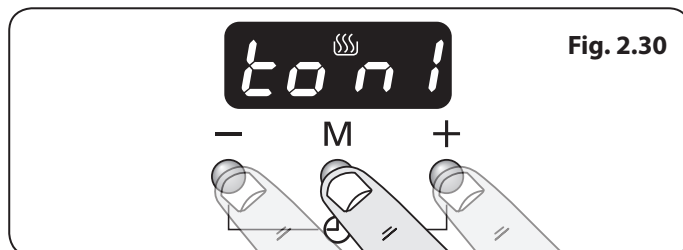

Fig. 2.30
1. Press the the [+] and [-] buttons simultaneously, then the mode [M] button. The display will show (ton1,2 or 3) (**Fig. 2.30**).